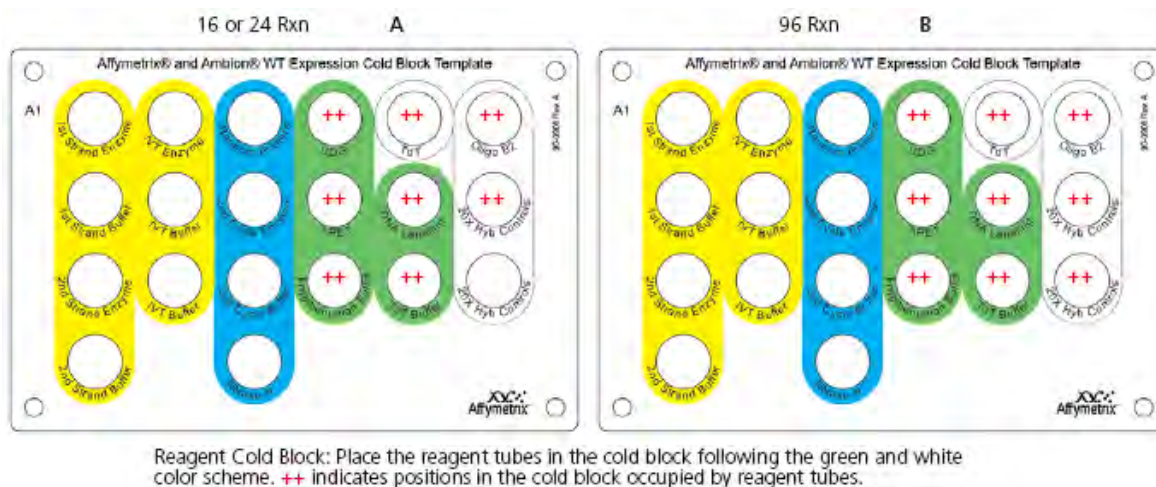

Figure 65 Reagent cold block setup for 16, 24 and 96 reactions for Part 5 array plates.
4. Set up the reagent cold block as shown in Figure 65 A or B, depending on your sample format.
- Uncap the Fragmentation and DNA Labeling Reagent tubes and insert them into the cooled reagent cold block following the green and white color code of the template (Figure 65).
- Uncap the thawed 3 nM Control Oligo™ B2 and 20X Hybridization Controls tubes and insert them into the cooled reagent cold block following the white color code of the template (Figure 65).